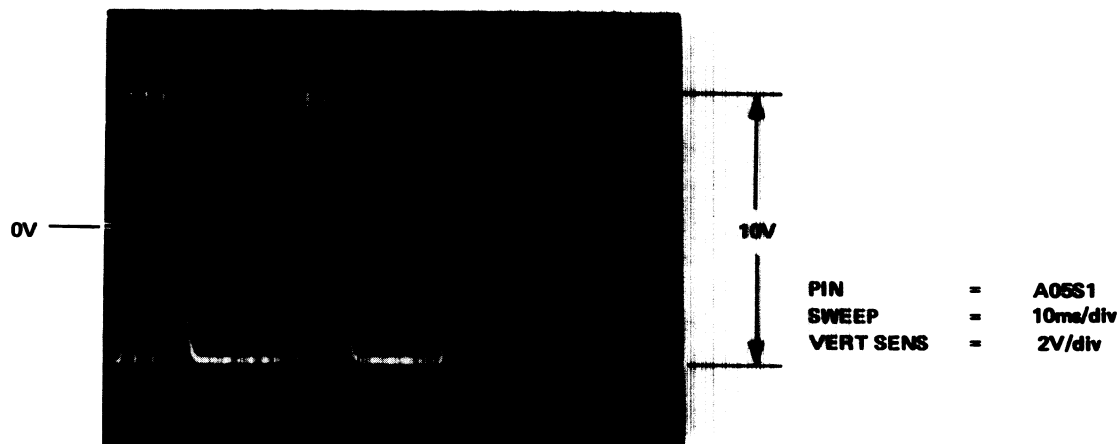

Figure 6-4 Cosine Amplitude/Offset Waveform
- a. Observe A05S1 (COS POSITION) for a scope display as illustrated in Figure 6-4. The waveform amplitude must be  $10 \pm 1$  V p-p and symmetrical about ground.